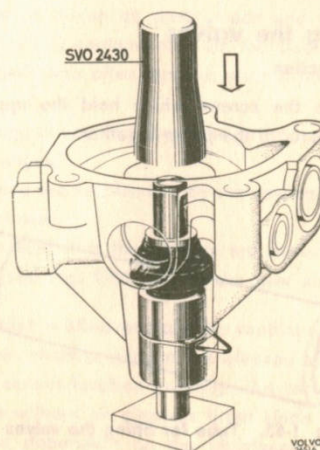

Fig. 1-89. Fitting the seal ring
2. Fit the seal ring with tool SVO 2430 as shown in Fig. 1-89. Smear the sealing surface against the impeller with molybdenum disulphide which has been stirred up in methylated spirit.